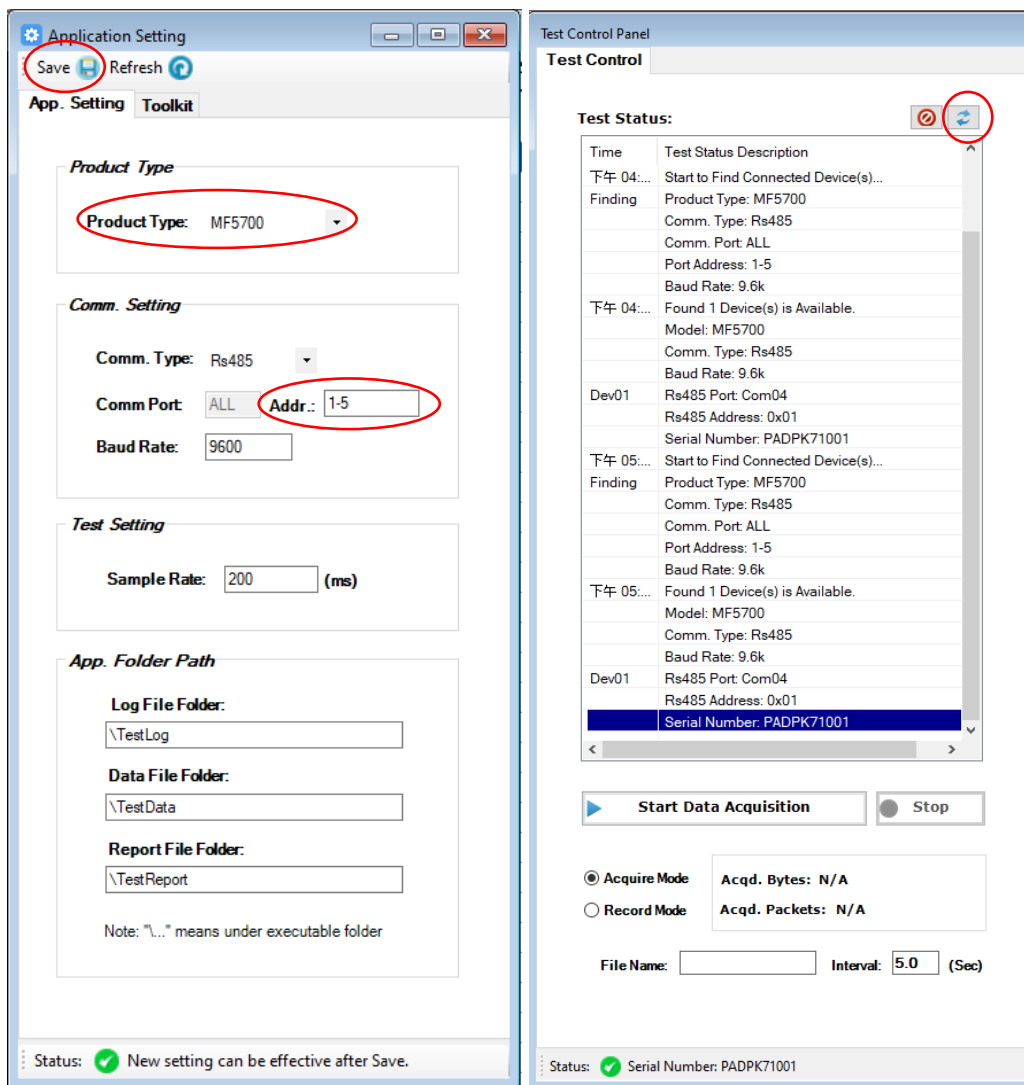

Figure 7
8. User may click “Application Setting” button  to open application setting panel to Update dut & software settings in “App. Setting”. (See Figure 7)
- User may click the “Save” button  to save the updated settings and click the “Refind Device” button  on Test Panel to see if the new settings effective or not. (See Figure 7)